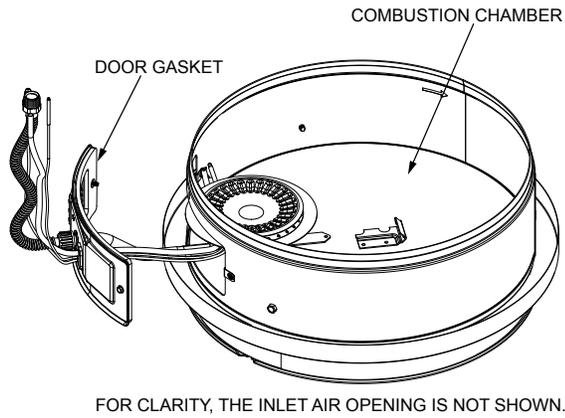

FIGURE 42.
3. Remove the screw securing the pilot/thermocouple assembly to the pilot bracket and keep for reuse later (Figure 42).
4. Lift the retainer clip straight up from the back of the manifold component block (using a flat-blade screwdriver), then remove the manifold component block from the manifold door (Figure 42). **IMPORTANT:** Be careful not to bend or alter the position of the pilot tube. It will be used as a bending template for the new pilot assembly. Note the placement/order of the wires in the manifold component block.